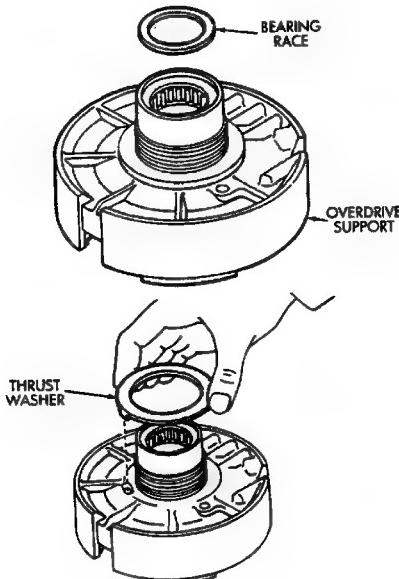

Fig. 4 Removing Clutch Drum Thrust Washer And Race
(4) Turn overdrive support over and remove bearing race and clutch drum thrust washer (Fig. 4).
(5) Install support bearing race and clutch drum thrust washer (Fig. 4).